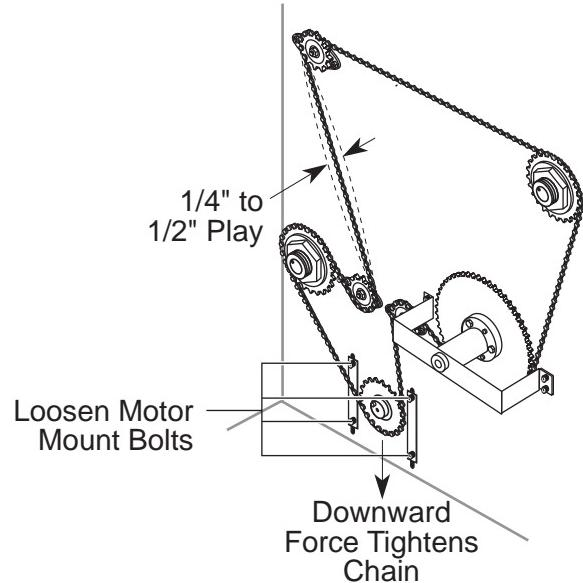

Figure 4-6: Adjusting the Chain Tension
3. Loosen all four motor mount bolts using the $\frac{3}{16}$ " hex wrench as shown in Figure 4-6. The motor should just move freely within the slots.